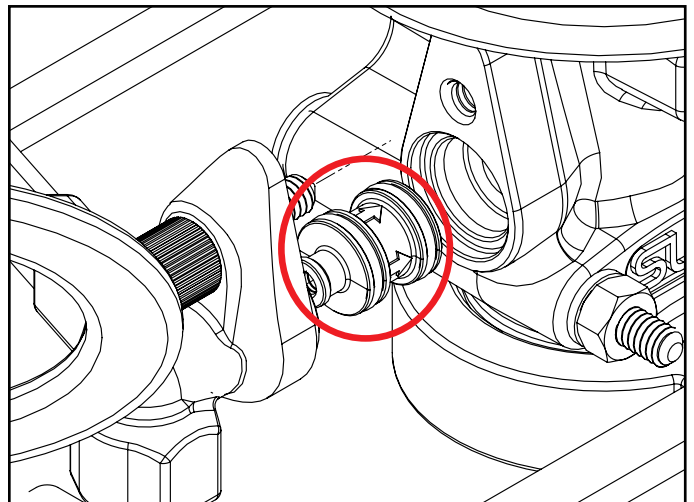

Fig. 9.3: SLX Check Valve (correct orientation)
5. The check valve will be seated either inside of the elbow or the body. Grab it and pull to remove. [Fig 9.3]